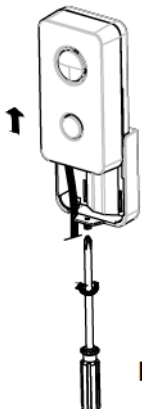

FIGURE 1
1. Undo the screw and then remove the back cover. Slide the base up (FIGURE 1).